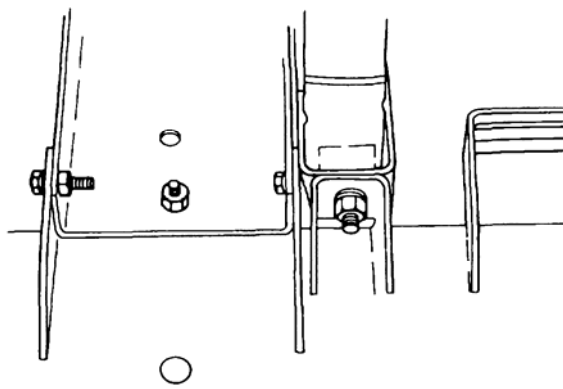

Figure 21 Removal of the Body Support Brace
- xx. Remove the bolts, nuts and washers securing the front body support brace to the chassis frame (Figure 21).
- f.** Install the nuts, washers and bolts retaining the front body support brace and battery carrier (Figure 21) and then tighten them securely.